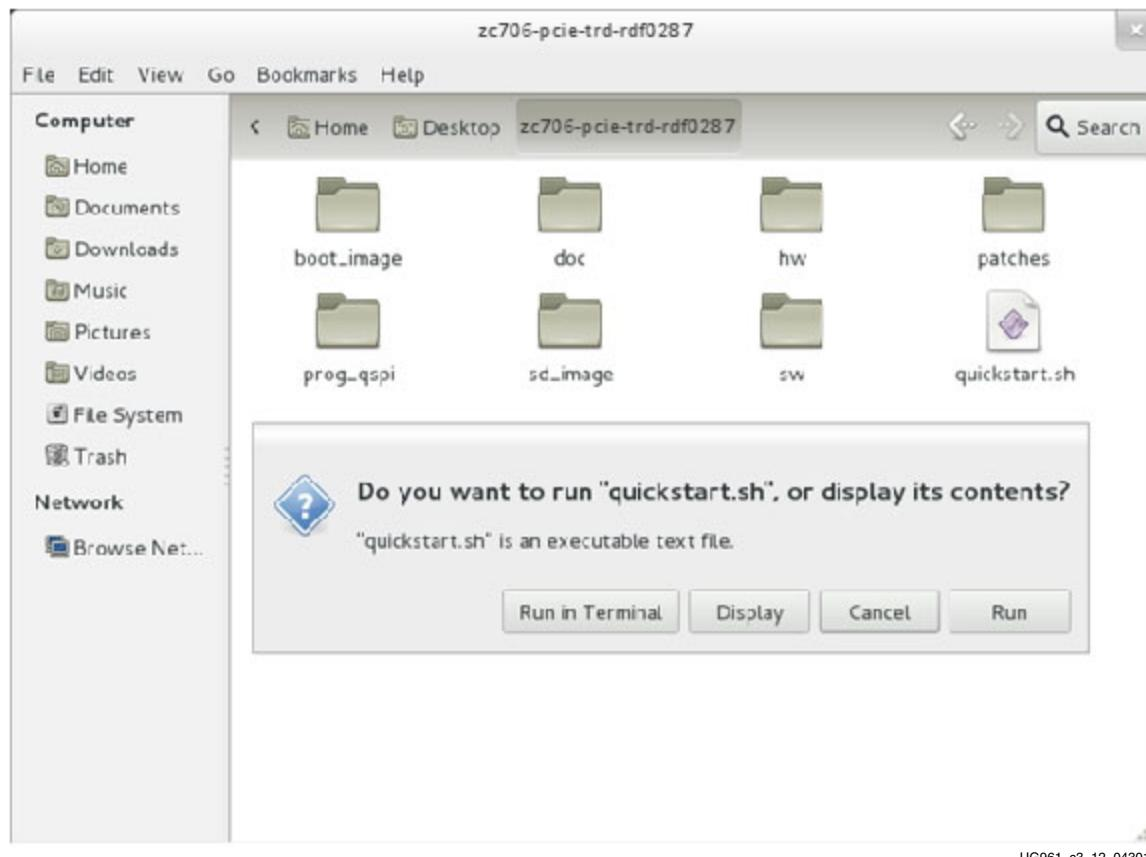

Figure 3-12: Running Quickstart Script
5. The GUI with driver installation option pops up as shown in Figure 3-12. The step installs all the software necessary for the host system to control, generate, and receive PCIe traffic to and from the ZC706 board and monitor performance. Click **Install**.